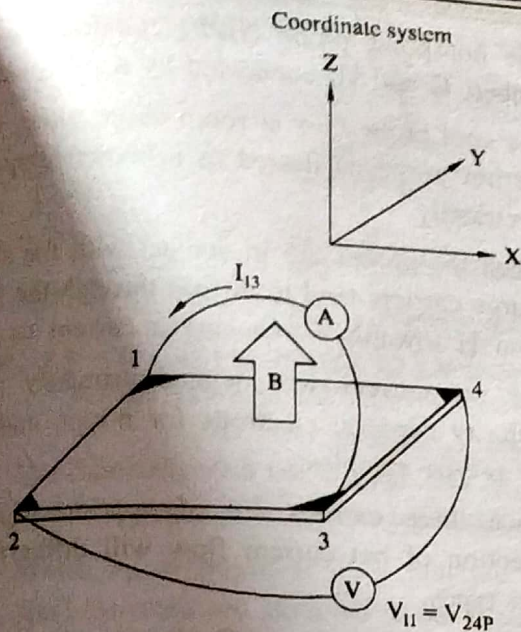

FIG. 4.3 : SCHEMATIC OF A VAN DER PAUW CONFIGURATION USED IN THE DETERMINATION OF THE HALL VOLTAGE V_H
- The most common way to control this problem is to acquire two sets of Hall measurements, one for positive and one for negative magnetic field direction. The relevant definitions are as follows (Fig. 4.3).